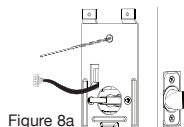

Figure 8a
- Using a 1/16" (2mm) drill bit, drill a pilot hole in your door using the Mounting Plate upper hole as a guide (Figure 8a).